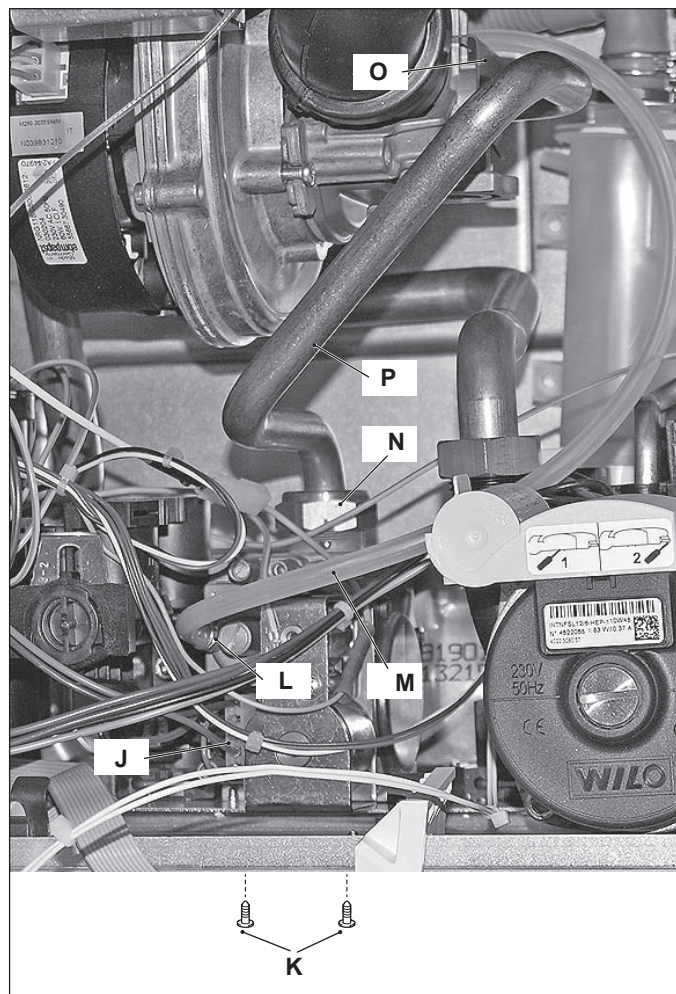

Figure 11.12
- 2 Disconnect the connector J (Figure 11.12).
- 4 Using pliers, remove the spring L and the rubber pipe M (Figure 11.12).
- 5 Unscrew the connector N (Figure 11.12), remove the fixing fork O and remove the pipe P.
- 6 Unscrew the screws K and remove the valve (Figure 11.12).